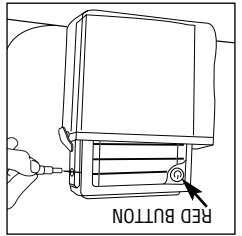

Fig. 9
2. Unsnap rubber plug from side of power pack and plug the power cord that was installed in your tent into the power pack. (Fig. 9)
3. Push the red button on the power pack to turn on main power. The button on the power pack and the tent light will glow when main power is "ON". (Fig. 9)